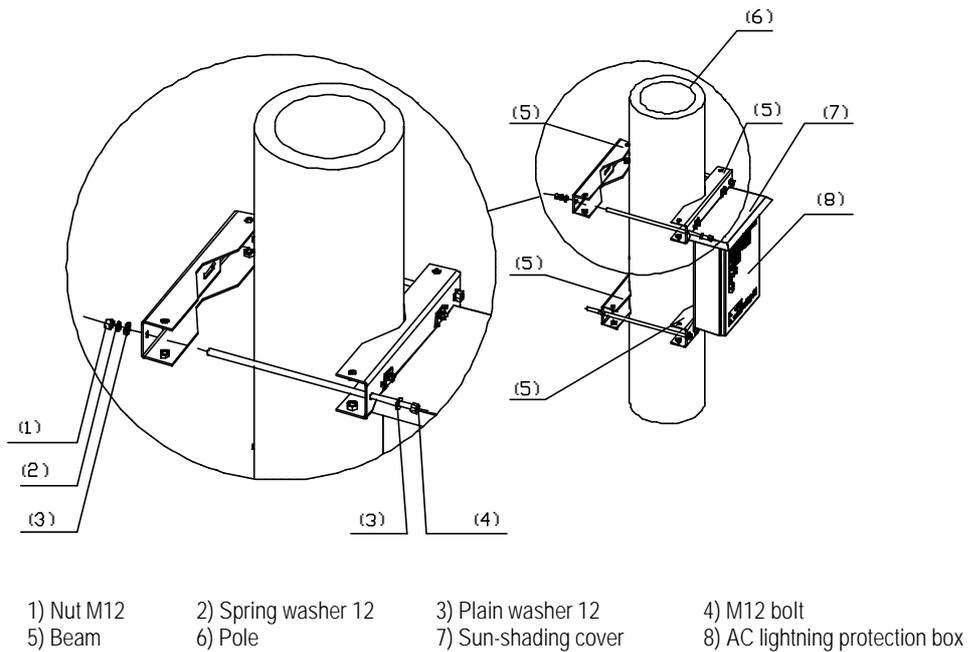

Figure 2-39 Fixing AC lightning protection box (on pole)
- 2) Place the fixed beam and the box together against the pole. At the other side of the pole, install another beam and get the pole at the middle between two beams. Then pull the M12 bolts through the two beams, put plain washers, spring washers and nuts onto the bolts, and tighten the nuts to a torque of 45 N·m with a spanner, as shown in Figure 2-39. If the pole is a little bit thin, cut the exposed bolts to keep the length of the exposed part about 20mm.